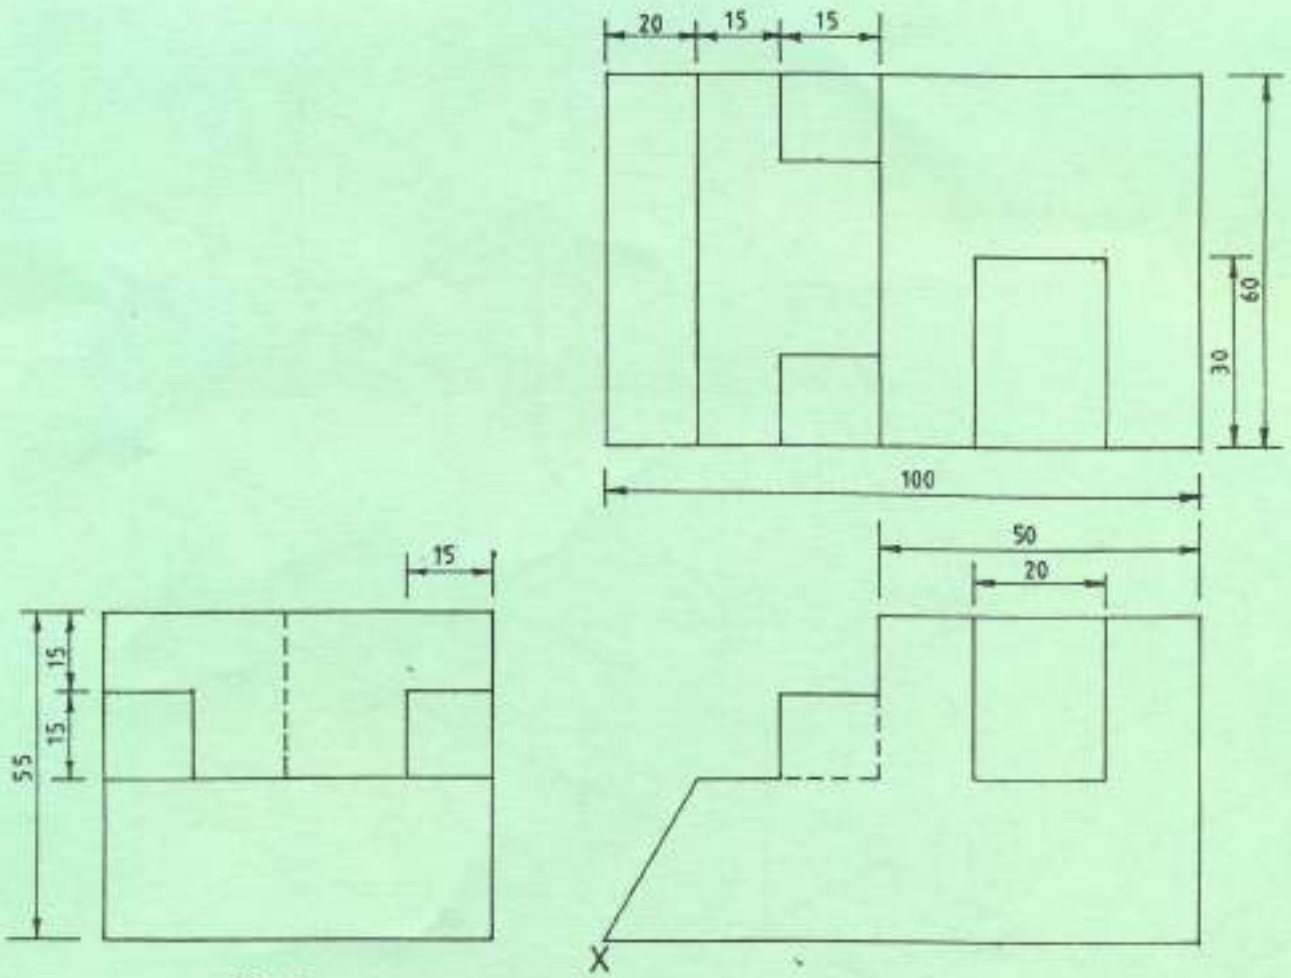

Fig. 2
3. Figure 2 shows three views of a machine block drawn in third angle projection. Draw an isometric projection of the block making corner "x" the lowest point. Include the major dimensions.